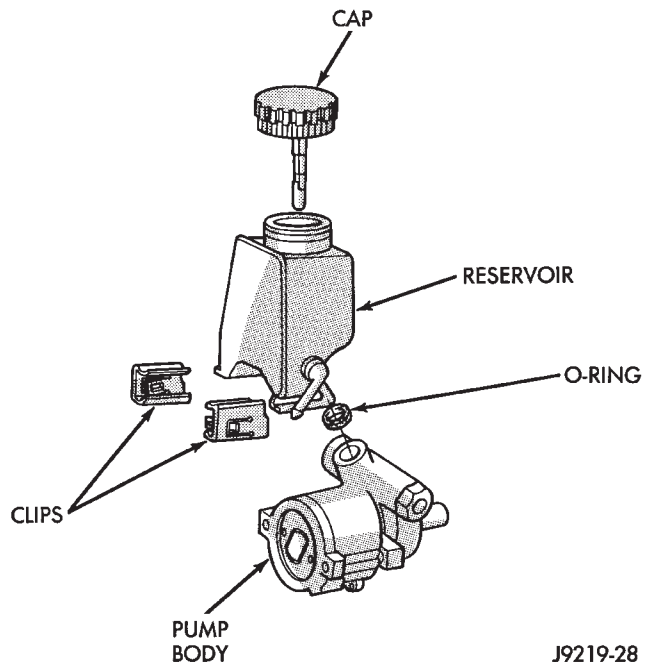

Fig. 4 Remove Reservoir (Typical)
- (5) Remove fluid reservoir from pump body. Remove and discard O-ring seal (Fig. 4).
- (1) Lubricate new O-ring Seal with Mopar Power Steering Fluid or equivalent.
- (2) Install seal in housing (Fig. 4).
- (3) Install reservoir onto housing (Fig. 4).
- (4) Slide and tap in reservoir retainer clips until tab locks to housing (Fig. 4).
- (5) Install pump. Refill reservoir with Mopar Power Steering Fluid or equivalent.